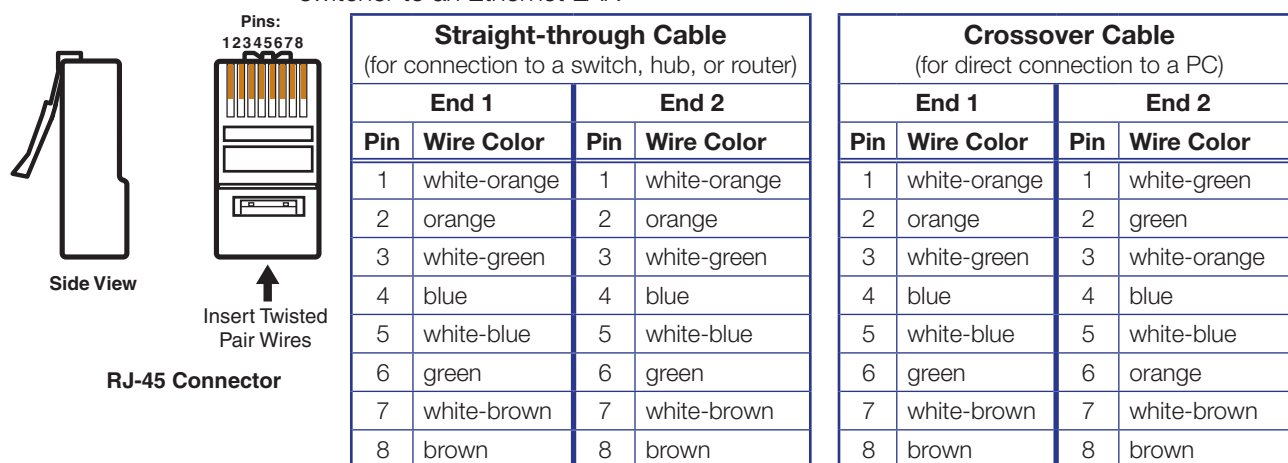

Figure 80. RJ-45 Connector Pinout Tables
The Ethernet cable can be terminated as a straight-through cable or a crossover cable and must be properly terminated for your application (see figure 80).
3. At the `C:\` prompt, type **Telnet** and then press <Enter>. The computer returns a display similar to the one shown in figure 80.